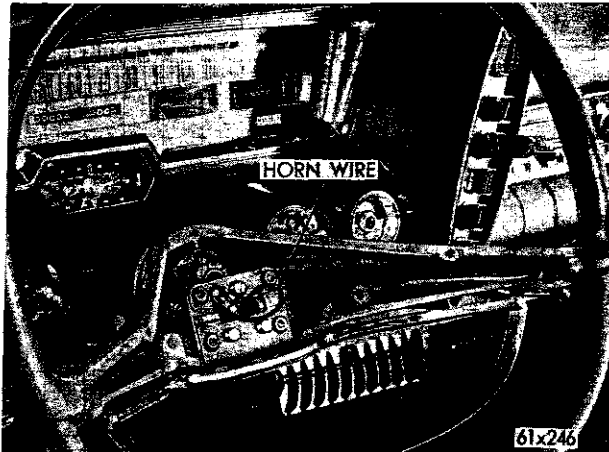

Fig. 19—Horn Switch and Horn Wire
(7) On Models TY-1 remove the two screws from the underside of the steering wheel and remove the horn blowing actuator and the steering wheel cover.
(8) Disconnect the horn wire at the horn blowing switch.
(9) Remove the four screws and insulators and remove the horn blowing switch (Fig. 19).